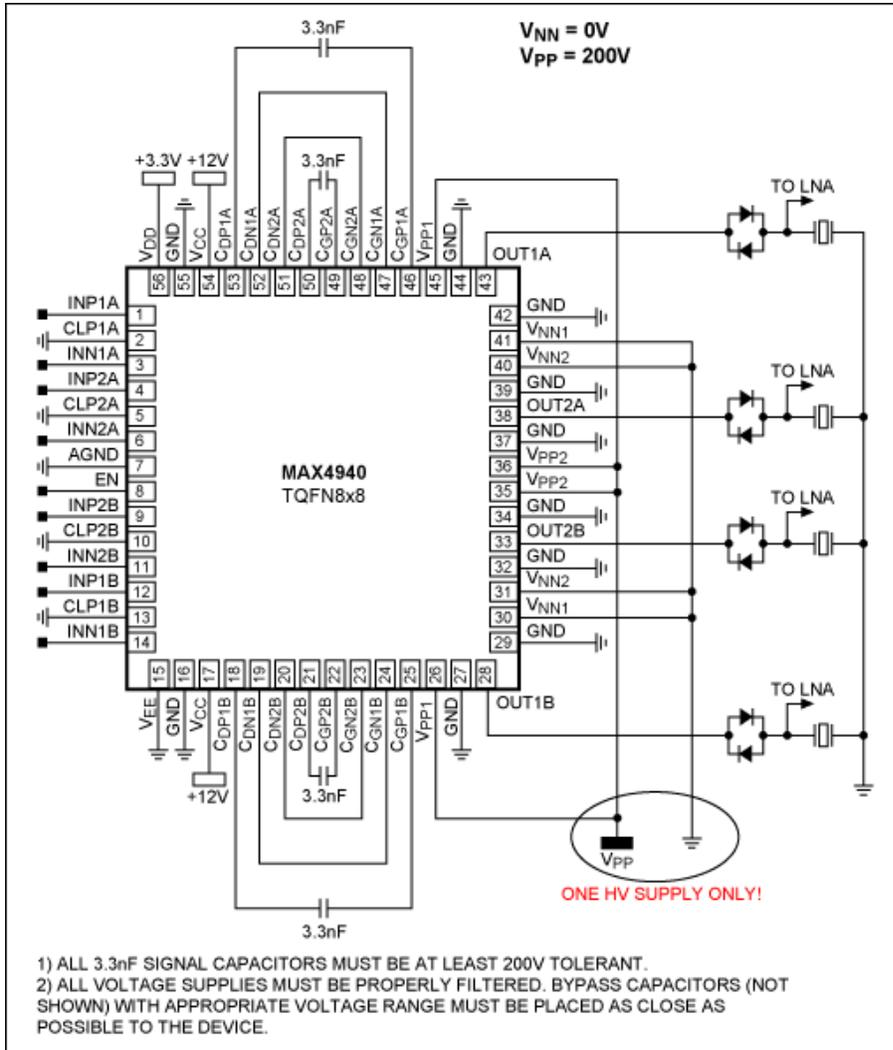

Figure 6. The MAX4940 in a unipolar positive application.
3. The unipolar positive (Figures 6 and 7) configuration is slightly preferable when compared with the unipolar negative (fewer external components are needed and the exposed pad is connected to GND plane for better thermal performance).
Now suppose you are working in unipolar positive mode (Figure 6) and trying to transmit a 200V unipolar burst. If for example  $C_{TOT} = 400\text{pF}$ , then the slew rate is limited to: